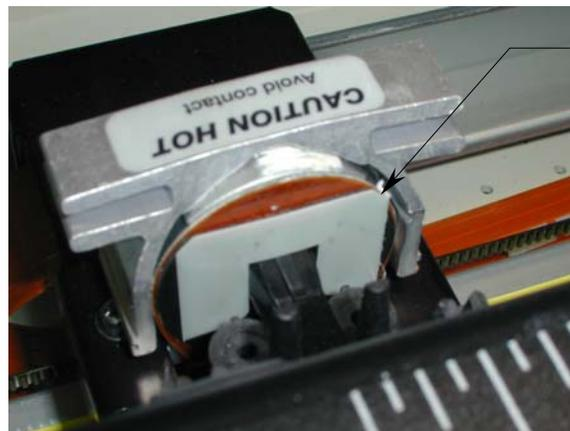

Figure 6
b) Insert the printhead insulation over the needle end of the printhead (see figure 6).